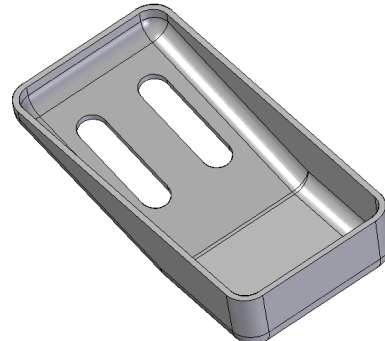

Figure 8-77 Model after creating the cutouts
- Create two cutouts in the model, refer to Figure 8-77.
1. Create two cutouts in the model, as shown in Figure 8-77.